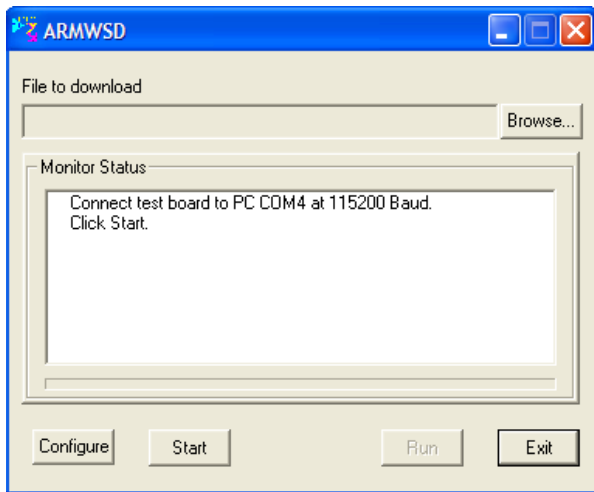
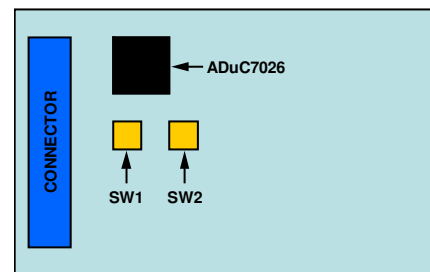

Figure 7. ISEB ARMWSD Firmware Downloader
Figure 9. ISEB Switch Locations for Flashing the Microcontroller
2. Run the **ARMWSD.exe** program located in the **/Drivers/FW/** folder, which displays information about the downloader, as shown in Figure 7.
1. Click **Start**, as shown in Figure 7, to initiate the flashing process. After clicking **Start**, the two buttons on the ISEB shown in Figure 9 must be pressed, in a specific order, to flash the firmware.
The download then begins and is automatically verified by the downloader. If the downloading process fails, which will be indicated in the **Monitor Status** box (see Figure 7), attempt the download again by clicking **Start** and then the appropriate switch combination. It may take a few attempts to reprogram the board successfully.
After the download is completed successfully, click **Run**, as shown in Figure 7, to reset the ISEB and to begin running the new firmware. When this step is complete, the board is updated correctly.
When the system is set up and configured, press SW2, which is shown in Figure 9, to reset the ISEB and have it detect the currently connected satellite. This must be done when the satellite connected to the ISEB is replaced by a satellite of a different part only; replacing the satellite with a satellite for the same part, that is, an EVAL-ADXL346Z-S with another EVAL-ADXL346Z-S, does not require SW2 to be pressed.